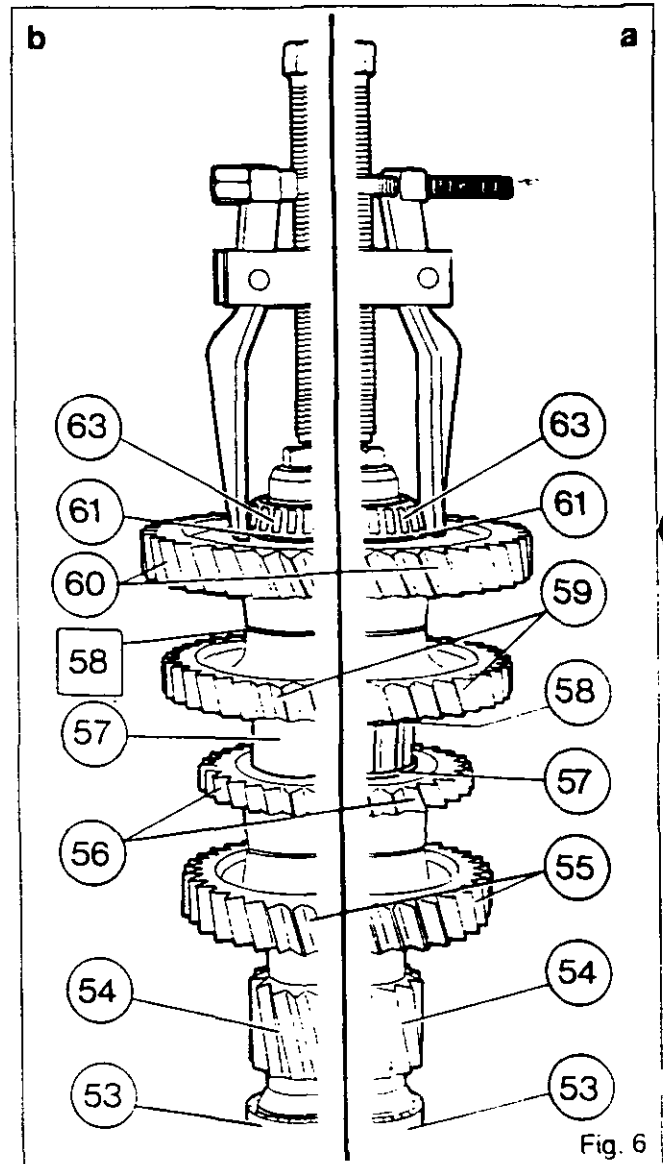
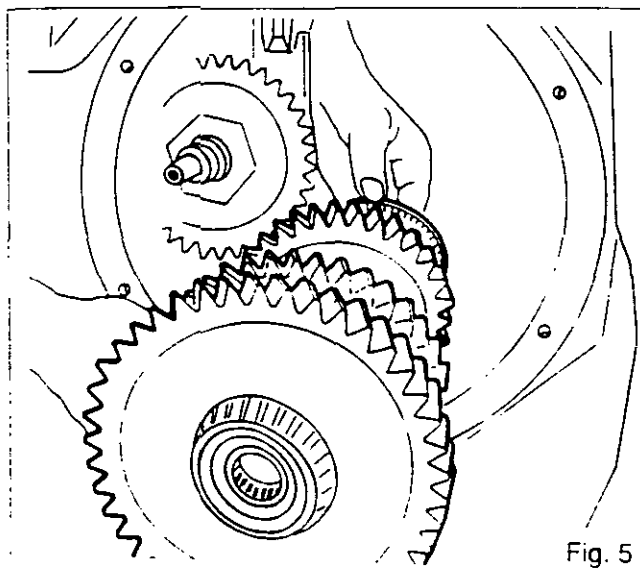

Fig. 6
Fig. 5
- 9. Withdraw the assembled shaft (Fig.5).
- 10. Remove washer (50).
- 12. Remove cup (52).
### Disassembling shaft (54) (Fig.6)